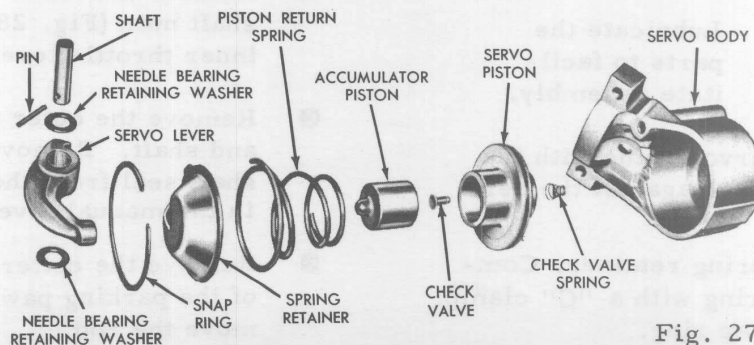

Fig. 27
- ☒ Inspect the servo body for cracks and the piston bore for scores (Fig. 27). Check the servo body to transmission case mating surface for burrs.